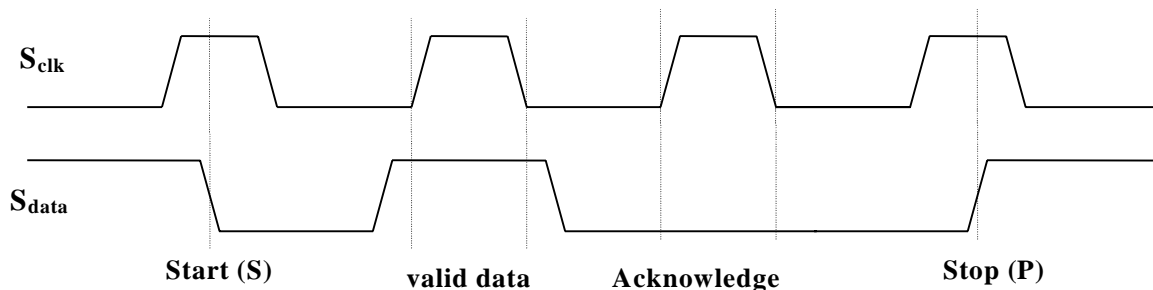

Figure 2. Serial Interface Specifications.
Figure 2 shows the basic transmission specification. To begin and end a transmission, the master device generates a start signal (S) and a stop signal (P). Start (S) is defined as switching the S_{data} from HIGH to LOW while the S_{clk} is at HIGH. Similarly, stop (P) is defined as switching the S_{data} from LOW to HIGH while holding the S_{clk} HIGH. Between these two signals, data on S_{data} is synchronous with the clock on the S_{clk} . Data is allowed to change only at LOW period of clock, and
Figure 2 shows the serial interface transfer format used with the CY2213. Two dummy bytes must be transferred before the first data byte. The CY2213 has only three bytes of latches to store information, and the third byte of data is reserved. Extra data will be ignored.